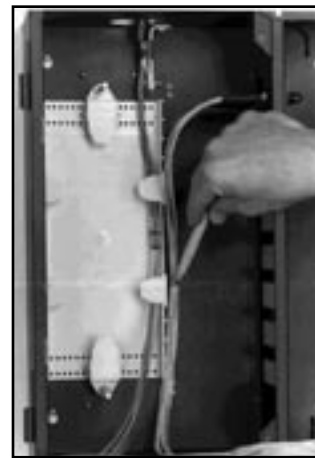

FIGURE 6 - MARK PIGTAILS
5.05 Mark the jacket of each of the pigtails at a point about 2" (51 mm) beyond the bending radius as shown in Figure 6.